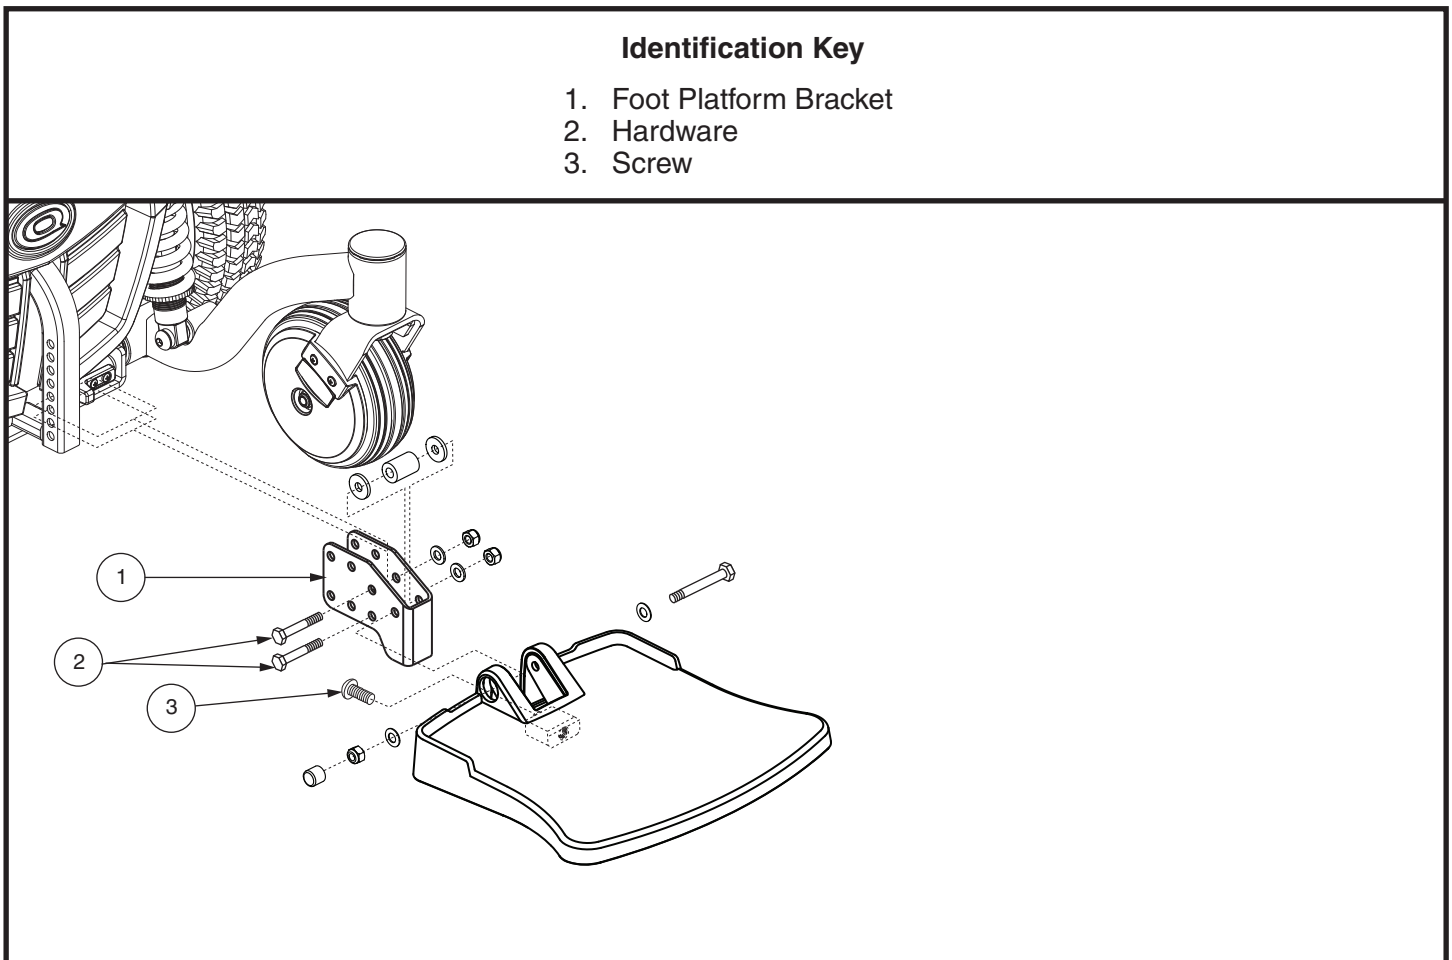

Figure 16. Foot Platform Adjustment
1. Remove the hardware from the foot platform bracket. **See figure 16.**
1. Flip up the foot platform and locate the screw. **See figure 16.**